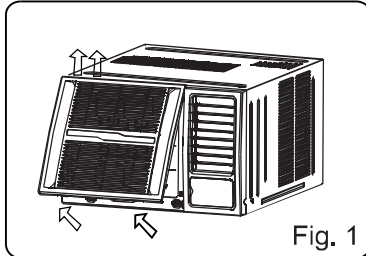

Fig. 1
1. Hold the tabs under the front panel, then uplift it outwards, and remove the front panel (See Fig.1).